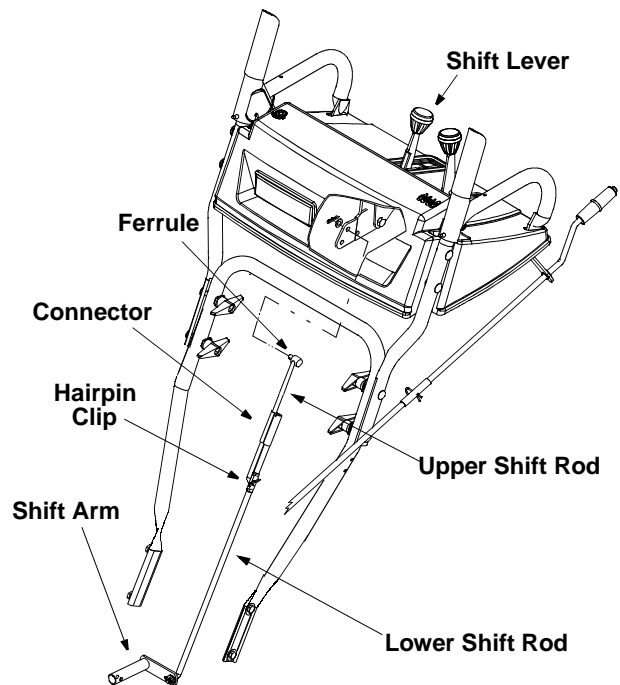

Figure 15
- Remove the hairpin clip and slide the connector up to separate the upper shift rod from the lower shift rod. See Figure 15.